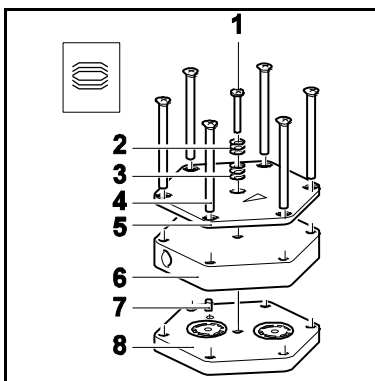

Fig. 24: Refitting pump head
1. For two-headed pumps: On the pneumatic head connection (3), loosen the union nuts (2) by hand. Then slightly loosen the angle-fitting (1) in the pump head (4) by turning it counter-clockwise, so that the connecting tube can be pulled out.
2. Mark the position of top plate (fig. 24/5), head plate (fig. 24/6), intermediate plate (fig. 24/8) and adapter relatively to each other by a drawing line (for two-headed pumps: at both pump heads) with a felt-tip pen (1). This helps to avoid incorrect assembly later.
2. Place the intermediate plate (8) with valve plates/sealings on the adapter in accordance with the felt-tip pen marking.
3. Place the head plate (6) on the intermediate plate (8) in the position indicated by the guide pin (7).
4. Place the top plate (5) on the head plate (6) in accordance with the felt-tip pen marking.
5. Gently tighten screws (4) in diagonal order.
6. Insert screw(s) (1) with disk springs (2, 3) in the center of the top plate (5). In doing so, make sure that the disk springs are arranged properly (see fig. 24).
7. Screw in the screw/screws (1) in the centre of the pump top plate (5) until it is flush with the top plate (they are flush with the top plate); then screw one final half turn to tighten.